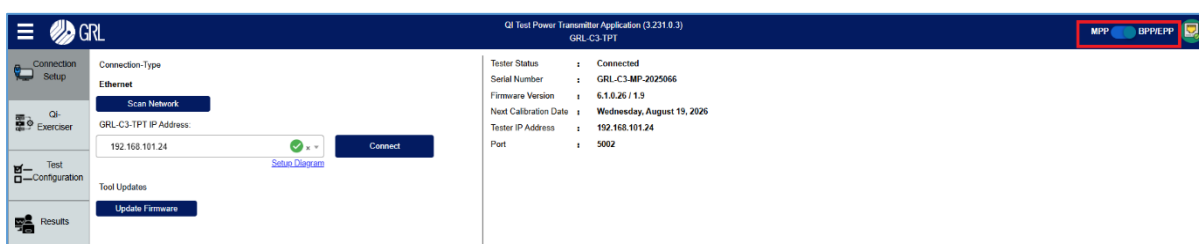

FIGURE 11.1: TOGGLE MPP TO BPP/EPP POWER PROFILE
2. Switch the power profile from **MPP** to **BPP/EPP** using the toggle switch at the top right corner of the browser window, as indicated in Figure 11.1 below.